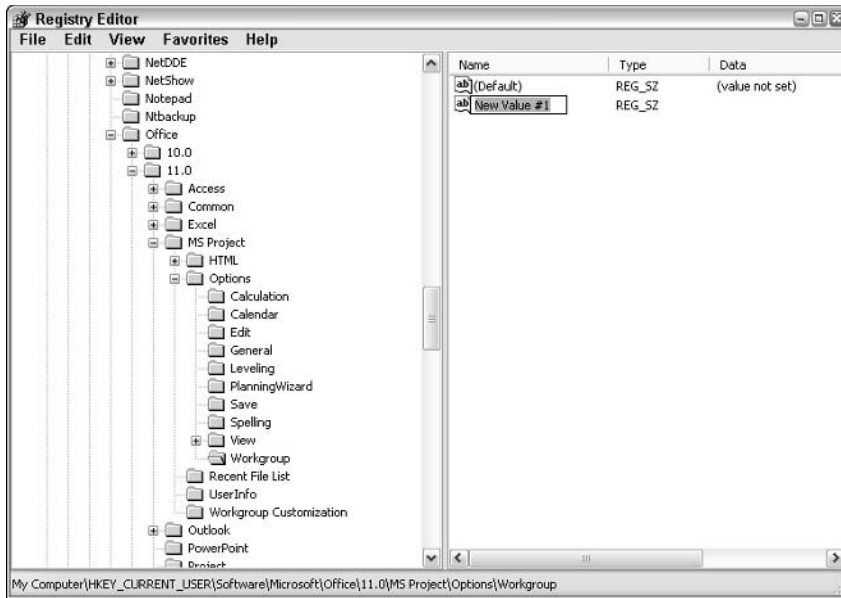

Figure 16-4: Add a string value.
7. With the **Workgroup** folder selected, add a new String value by choosing **Edit**→**New**→**String Value**. You see a new entry in the right pane of the Registry Editor window (see Figure 16-4).